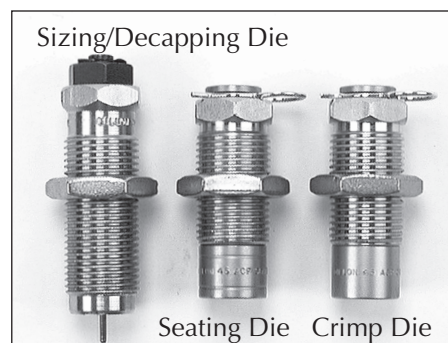

FIG 68
K. Station 5 – Installation and adjustment of the Crimp Die FIG 68: